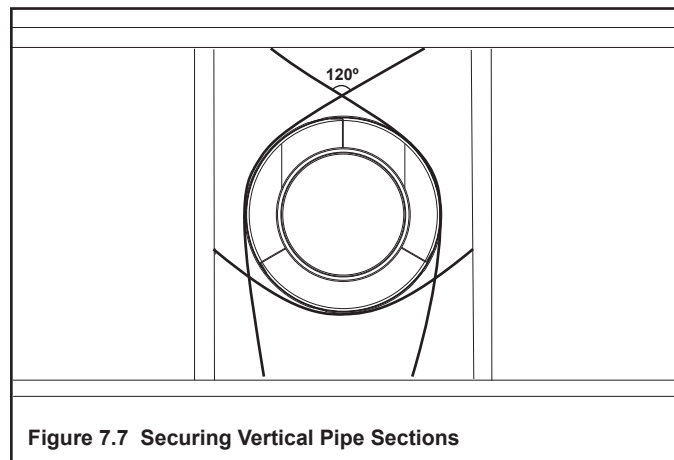

Figure 7.7 Securing Vertical Pipe Sections
- Vent supports or plumbers strap (spaced 120° apart) may be used to support. See figures 7.7 and 7.8.